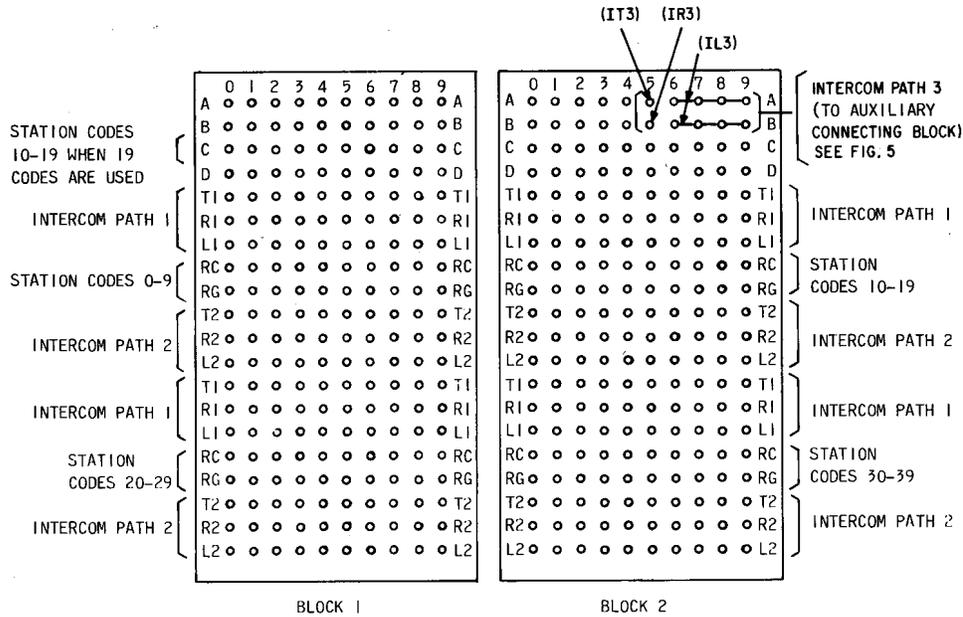
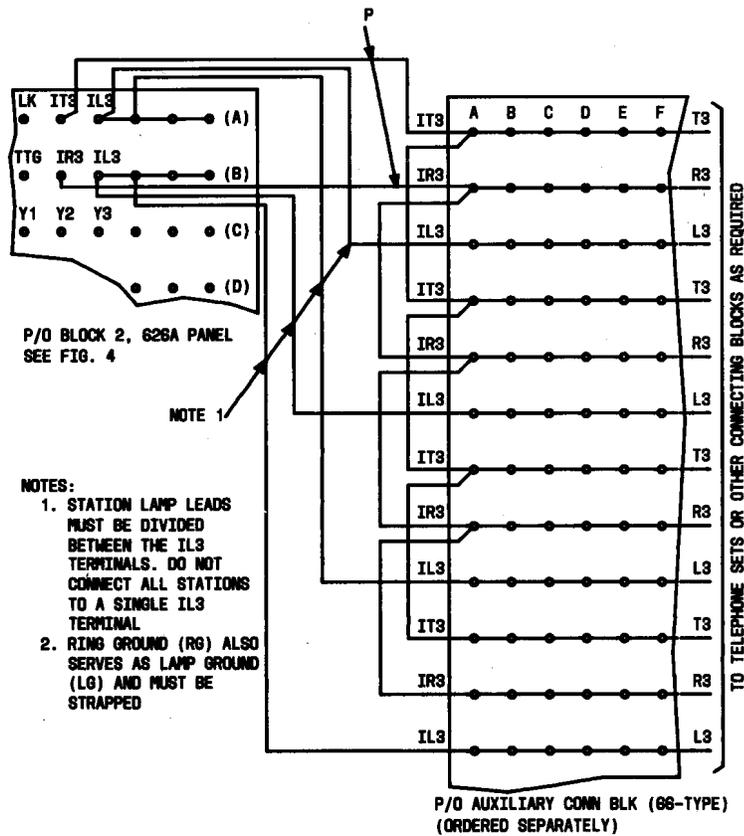

Fig. 4—Intercom Path and Station Code Terminations, 626A Panel
Fig. 5—Typical Arrangement for Connecting Stations to Third Intercom Path
**2.05** The lower section of the 626A panel has two connecting blocks, light yellow in color, that contain 66-type quick-connect terminals (Fig. 4). These blocks are 20 terminals high by 10 terminals wide. The upper 4 horizontal rows of the connecting blocks contain power option and function terminals
to interconnect the various intercom arrangements and optional features. The lower 16 horizontal rows of the connecting blocks provide the station cross-connect terminals for station codes and for the 1- and 2-path intercom stations. The third intercom path access circuit common leads are brought out on rows 1 and 2 of the second connecting block. Straps must be run to a separate 66-type connecting block (Fig. 5) for distribution to the 3-path intercom station.
**4.02** The FW option (Fig. 8) is a factory-provided option. The FW option provides for two or three intercom paths with 37 station codes. Stations can utilize both rotary and TOUCH-TONE dialing. Digits 1, 2, and 3 are used as transfer digits and are not available for station codes. Where the third intercom path is used, an external (66-type) connecting block (Fig. 5) is required to connect the common leads. Interrupted signaling is standard, but single-spurt signaling may be provided where a 494-type selector is used by installing option G and removing the factory-installed strap between A8 and B1 of block 1 (Table B).
**4.04** The S option (Fig. 9) provides for two or three intercom paths with 19 station codes. Stations can utilize both rotary and TOUCH-TONE dialing. Digit 1 is used as the transfer digit and is not available for a station code. Station codes 10 through 19 are connected to row C, terminals 0 through 9 on block 1 of the 626A panel (Fig. 4). Where a third intercom path is used, an external (66-type) connecting block (Fig. 5) is required to connect the common leads. ♦ Interrupted signaling is standard, but single-spurt signaling may be provided where a 494-type selector is used by installing option G and removing the factory-installed strap between A8 and B1 of block 1 (Table B). ♦